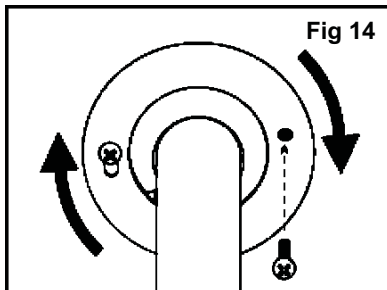

Fig 14
15. If there is a protective rubber ring on the Canopy cut it off now. With the motor in place and the wires out of the way, slide the canopy up to the hanging bracket. The canopy screws in the bracket will come through the large end of the slots in the canopy. Fig. 14. Turn the canopy slightly to lock in, and tighten the screws.